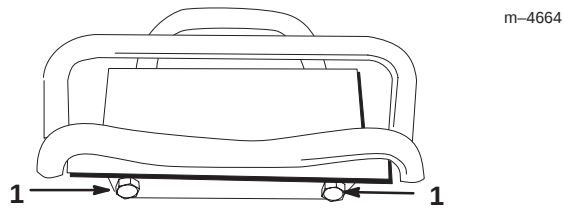

Figure 22
3. If the traction unit veers to the **left**, loosen the the **right** jam nut and adjust the tracking set screw on the front of the traction control (Fig. 22).
4. If the traction unit veers to the **right**, loosen the the **left** jam nut and adjust the tracking set screw on the front of the traction control (Fig. 22).